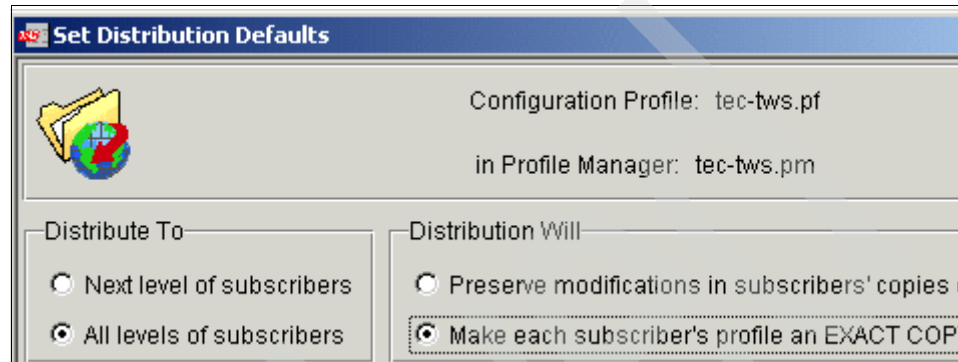

Figure 8-42 Detailed view of Set Distribution Defaults window
20. Ensure that *All levels of subscribers* in the Distribute To group on the left-hand side of the window is selected. Also, ensure that *Make each subscriber's profile an EXACT COPY of this profile* in the Distribution Will group on the right-hand side of the window is selected, as shown in Figure 8-42.